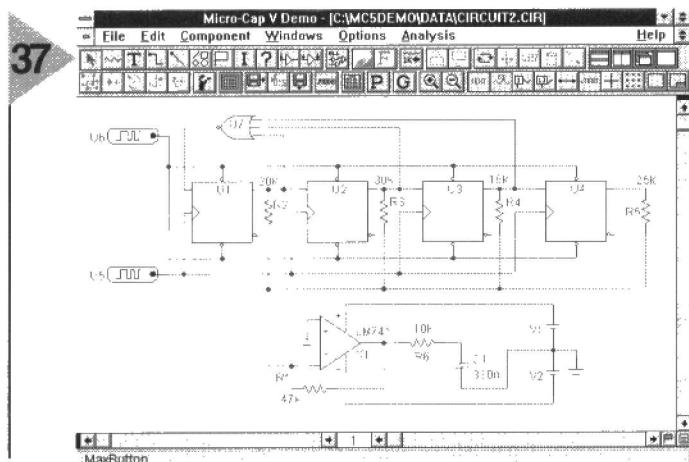
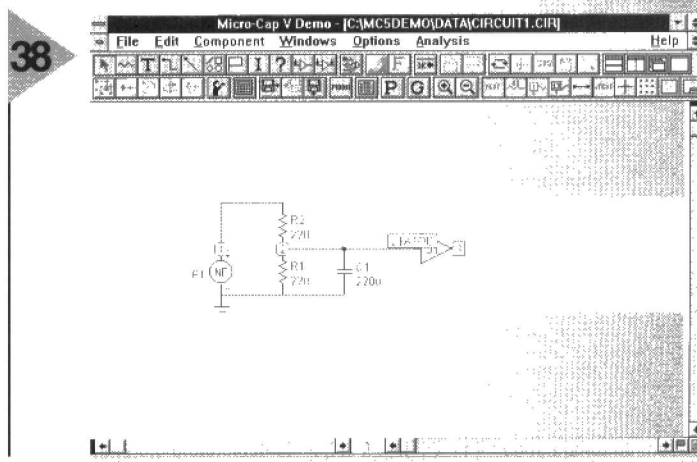

Figure 37. The signal in Figure 36 is improved by inserting a comparator between the source and potential divider.
Figure 38. Waveforms of the original signal, that of the op amp, and the resulting digital signal which is now clearly defined.
This is a common problem when analogue and digital circuits are connected. To improve the interface between them we must make sure that V(2) never lingers around the threshold input level of the inverter. One way to do this is to insert an op amp, wired as a comparator between the source and the potential divider (Figure 37). The battery V3 provides a reference level, or this could be provided by a voltage reference or a variable potential divider in a real circuit. The plot (Figure 38) shows the original waveform, and that of the op amp output, after being reduced by the potential divider (multiplied by 4 in the display to